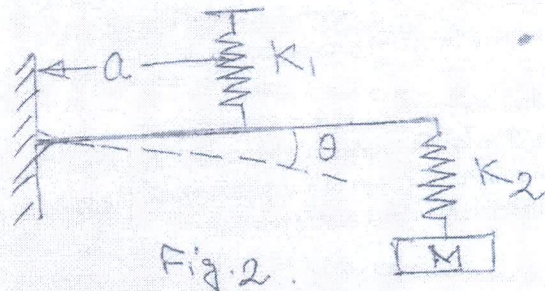

Fig. 2.
4. A rigid massless bar of length 'L' is hinged at its left end and carries a spring ' K_2 ' with mass 'M' at its right end. The bar is also supported by a spring ' K_1 ' at a distance 'a' from the left hinge. As shown in fig.2 Determine the natural frequency of the bar for angular oscillation ' θ '. [8]